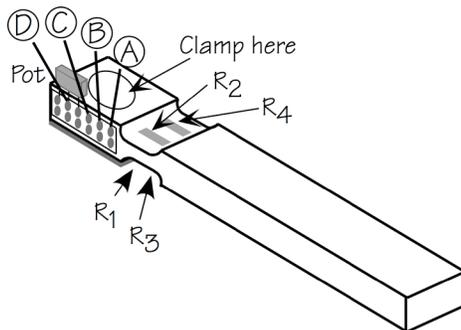
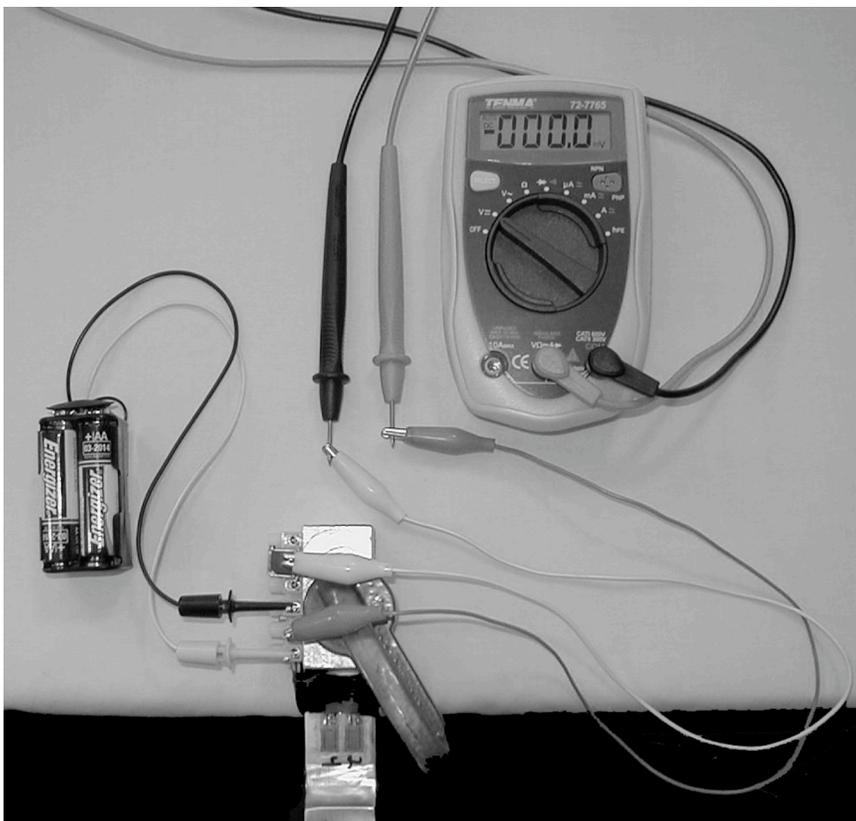

Fig. 1—Cantilever and strain gauges
Fig. 4—Strain-gauge setup
1. Clamp the cantilever beam (Fig. 1) to the table. Don't squash any components or wires. The photo of Fig. 4 shows a correct setup.